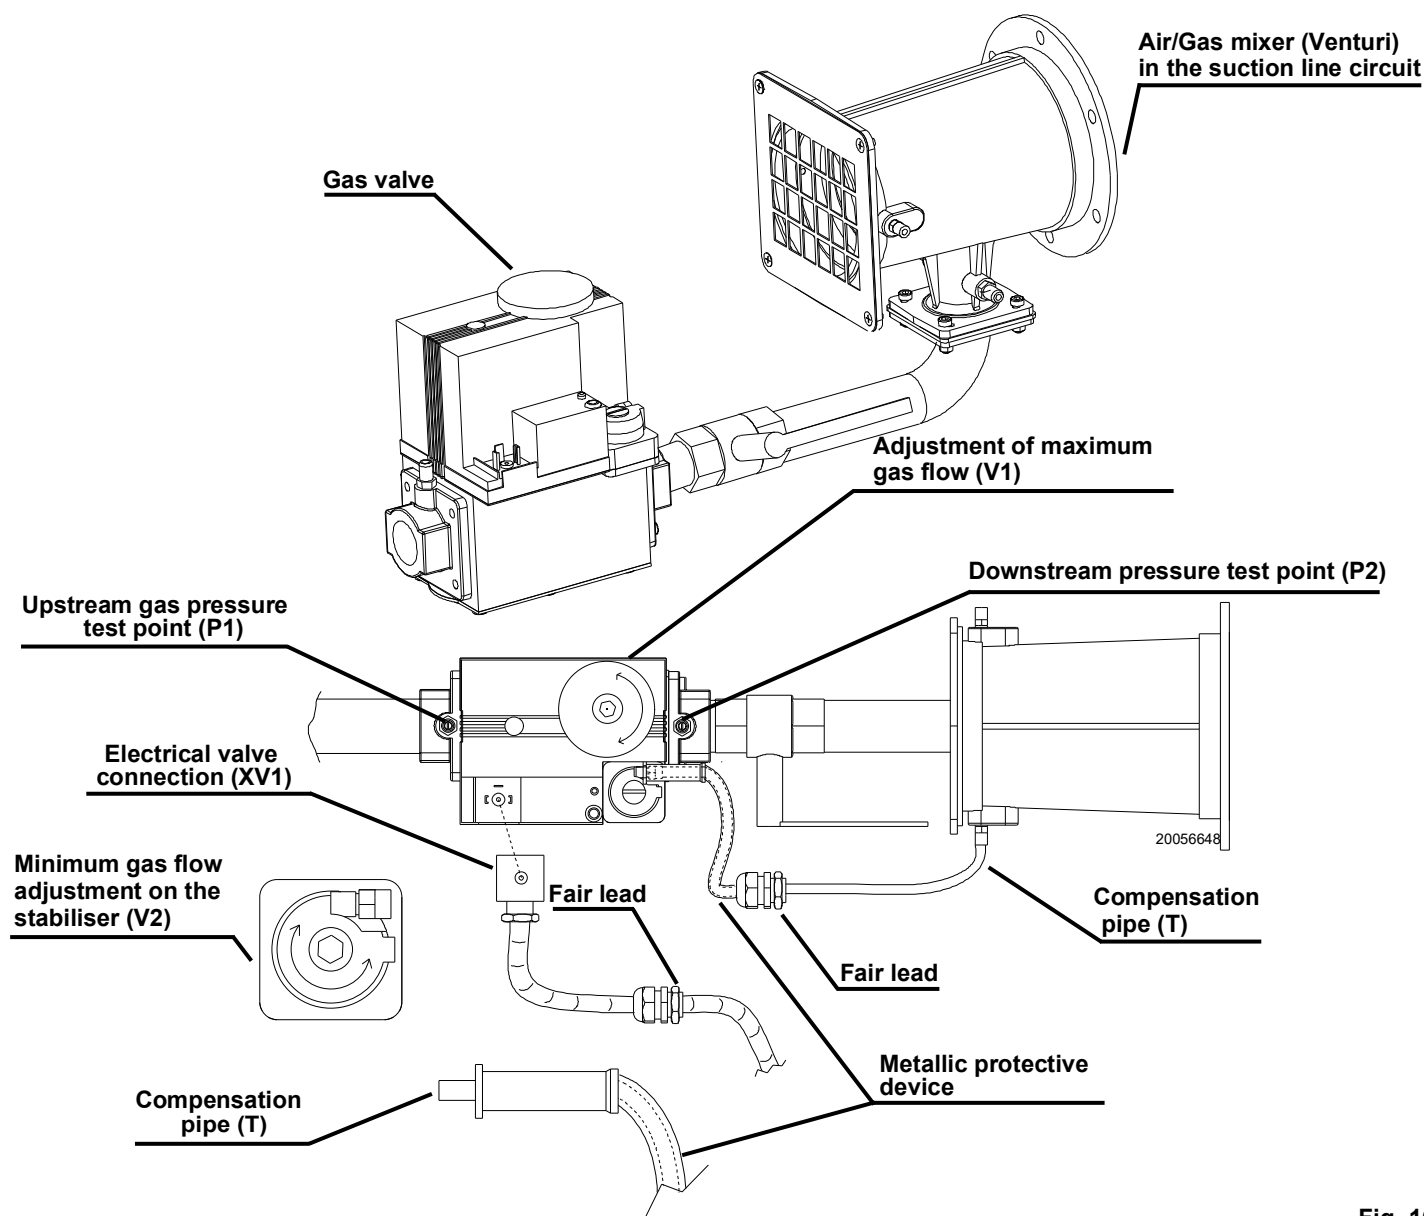

Fig. 16
- bleed the air from the gas pipes using the screw on the socket P1)(Fig. 16, page 22);